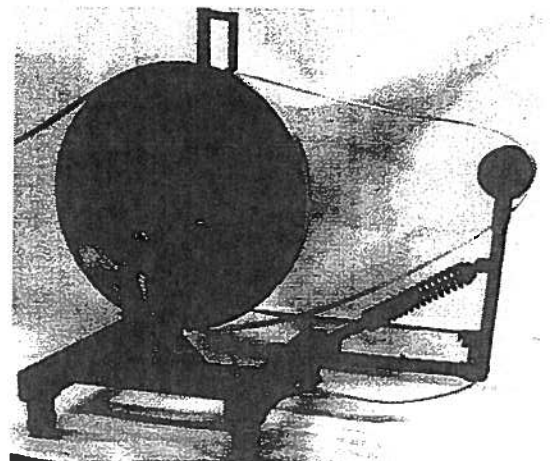
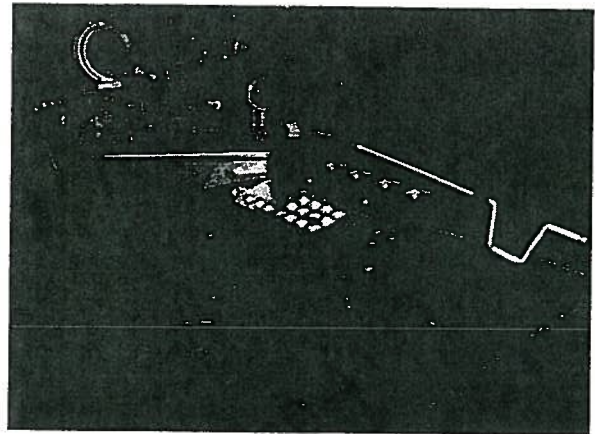
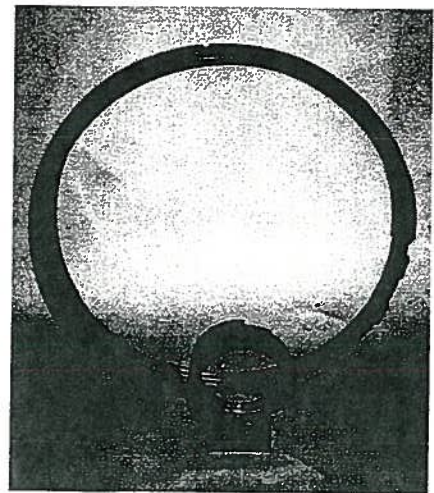
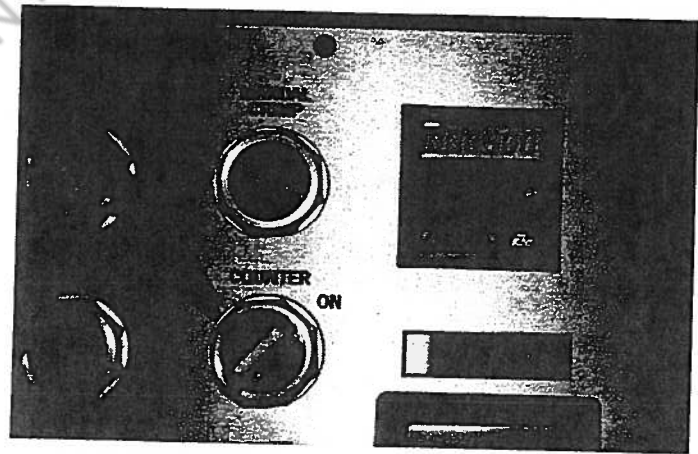

Fig. 3 - Vertical Decoiler
Fig. 4 - The Main Machine
Fig. 5 - Forming Heads, Typical
Fig. 8 - Production Counter Controls at the Operator Panel
3.7.1 The standard equipment includes a vertical decoiler (Fig. 3), the main machine (Fig. 4), the forming heads (Fig. 5), the flying splitter (Fig. 6), a run-off table (Fig. 7), a receiving ramp (See Fig. 7), and a production counter (Fig. 8).
An electronic counter is furnished as part of the standard equipment for counting the number of tubes made. The design provides for a six digit number register that may be preset for the required number of tubes to be produced for each production setup and cycle, and will stop the tubeformer when the number of tubes produced equals the preset value. The keypad and display unit, and the control switch for the production counter (Fig. 8) are located at the operator panel. The display consists of a single line of six numbers. The keypad consists of 8 buttons arranged in a three row combination of 3, 3, and 2 buttons. The top row of 3 buttons includes a button labeled **P1**; the middle row of 3 buttons are not labeled; and the bottom row of 2 buttons are labeled **E** and **R** respectively. The two rows of 3 buttons each, for a total of 6 buttons including the **P1** button, are used to enter the individual numbers that make up the six digit number register or memory for programming the value of the production preset count. Each of these 6 buttons allows the single digit number entries 0 through 9. The **P1** button serves the additional function as the button for activating the display screen. The **E** button is used to accept the value programmed for the production preset count; and the **R** button is used to reset or zero out the register or memory for production actual counts.